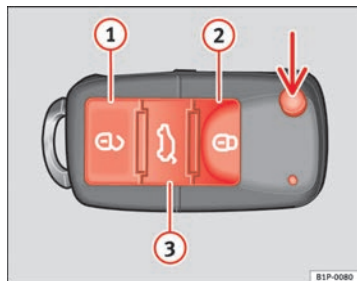

Fig. 63 Assignment of buttons on the remote control key
- Press the  ⇒ page 100, fig. 63 button on the remote control.